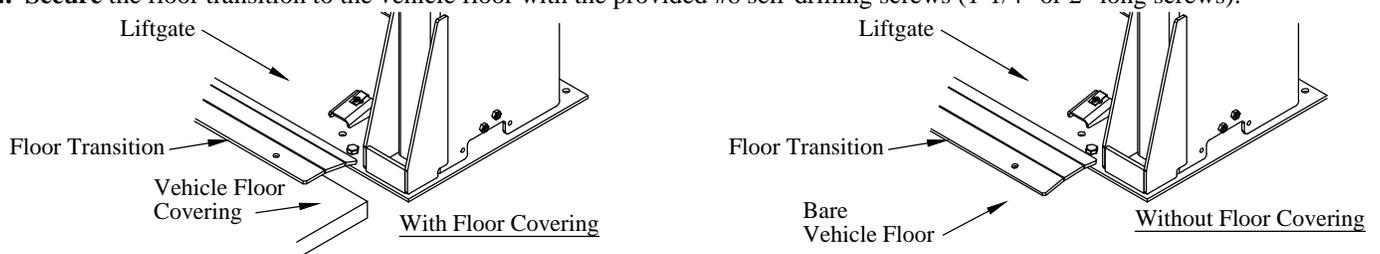

Figure 18: Floor transition.
- 1. Position** the floor transition with one side on the liftgate and the other side on the vehicle floor (Figure 18).